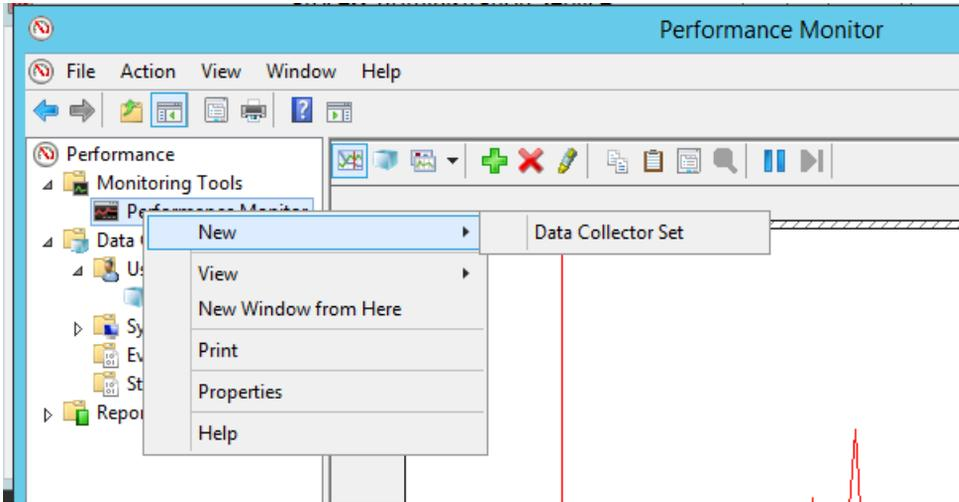

Figure 83. Create New Data Collector Set
5. Create a New Data Collector Set as show in Figure 83. Give the collector set a meaning full name. The default folder for the log file is sufficient.